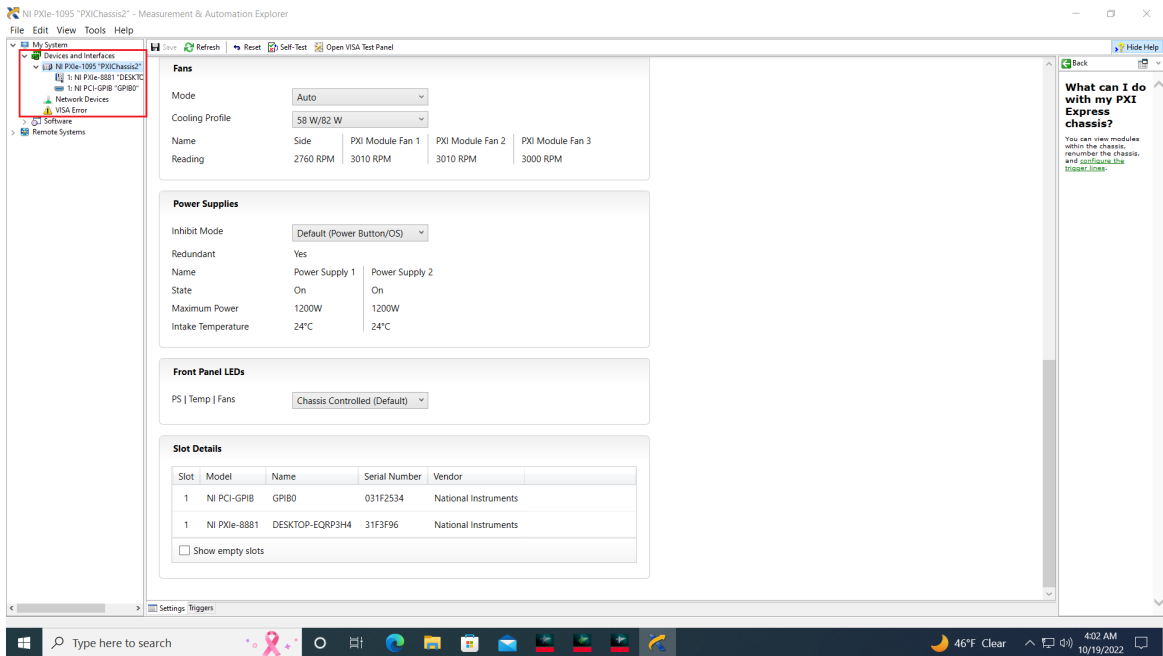

Figure 40 Non appearance of M5000 series modules in NI MAX interface
This issue is specific to the users who have installed one or more M5000 series modules in the National Instruments (NI) chassis. The modules may be detected by the Keysight IO Libraries Suite. However, if you do not see those under “Devices and Interfaces” in the NI – Measurement & Automation Explorer (MAX) Interface and see VISA error, as shown in **Figure 40**, the possible reason is that the NI associated drivers were not installed properly.